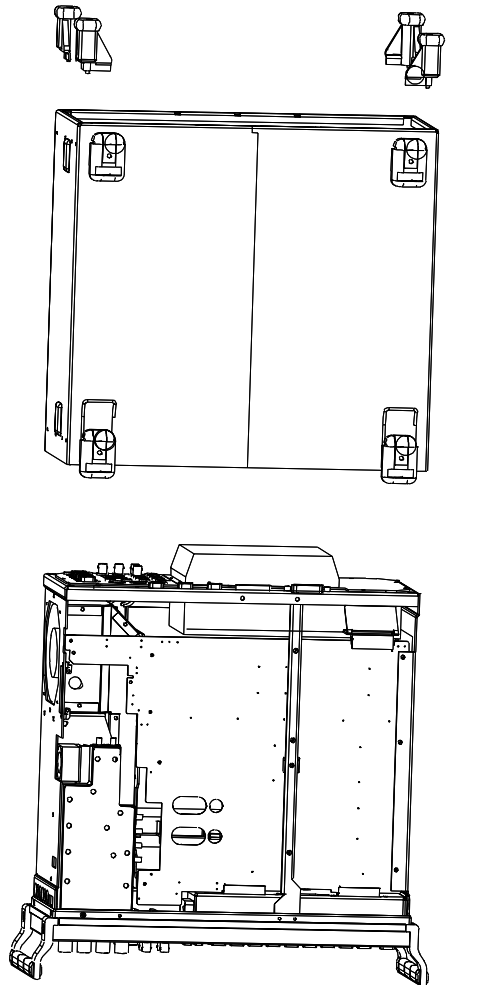

Fig. 1
- 1.3 Place unit on handles at the front, push casing upwards and remove (Fig. 1).
- Fit casing and cabinet feet in the reverse order given under 1.2 / 1.3 (Fig. 1).